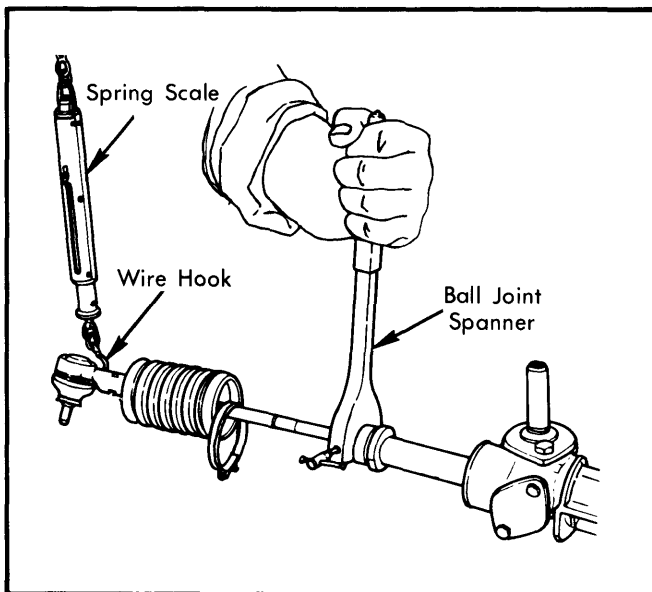

Fig. 2 Checking Tie Rod Effort
3) Grease tie rod ball and seat and assemble on end of rack. Tighten ball seat until effort required to move tie rod is 5.1 lbs. (2.3 kg) when measured  $\frac{1}{4}$ " from end of rod. See Fig. 2.